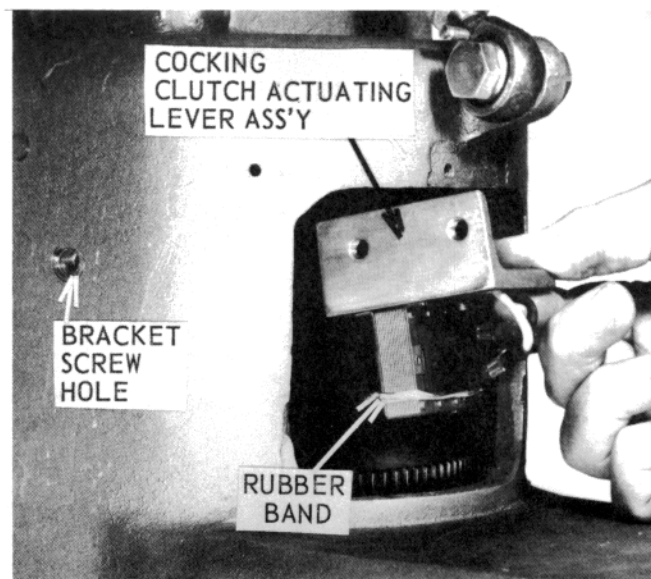
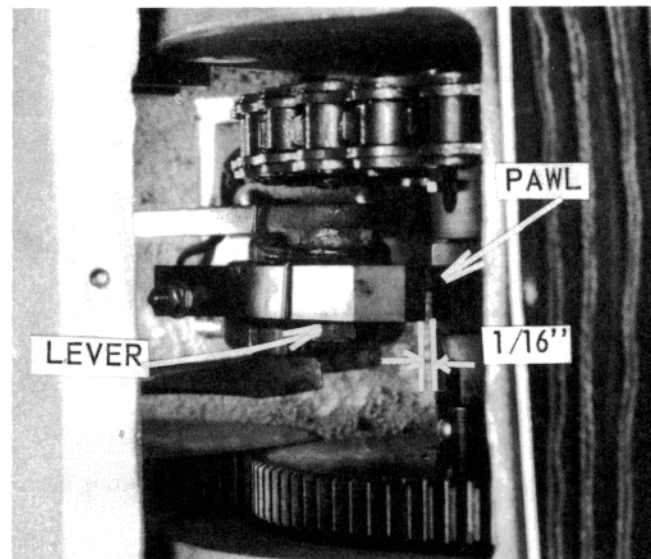

Figure 61 — Reinstalling Cocking Clutch Actuating Lever Assembly
Figure 62 — Clutch Actuating Lever Clearance
- 4.4 When reinstalling the cocking clutch actuating lever assembly (see Figure 61), use a rubber band to keep the armature seated in the coil until the screws have been reinstalled in the bracket. Do not overtighten bracket screws. Then remove the rubber band and allow the lever to engage the sleeve. The clutch actuating lever assembly should have a clearance of $1/16''$ between the clutch actuating lever and the cocking clutch pawl when the solenoid is depressed. (see Figure 62).